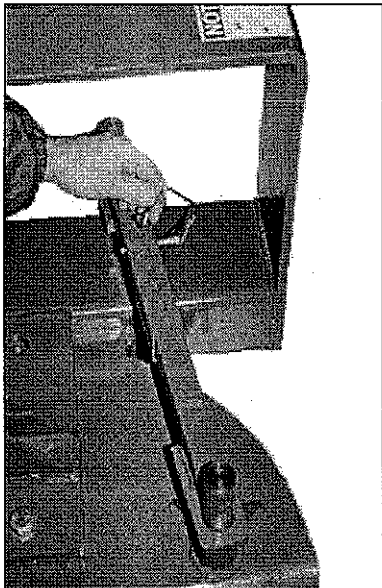

figure 12
- c. Secure with 2 cotter pins (figure 12).